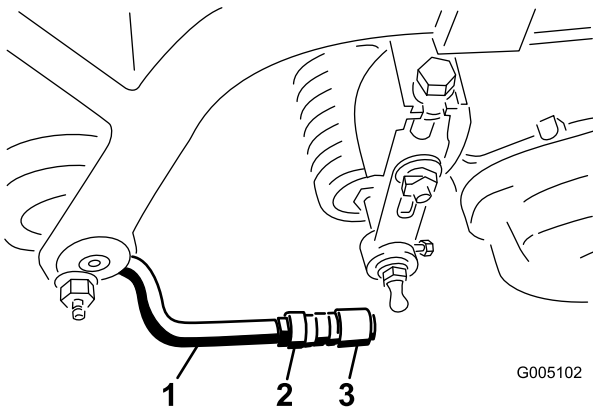

Figure 11
6. Align the sockets in the ball joints so the open side of the socket is centered towards the ball stud. Tighten the jam nuts to secure the sockets in position (Figure 11).